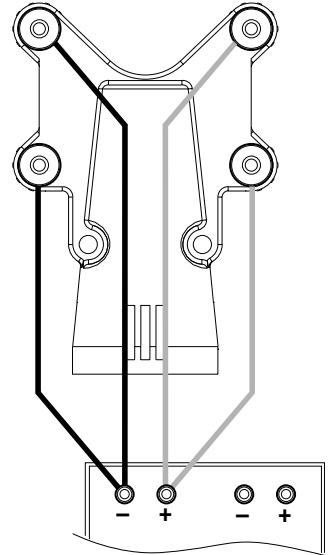

FIGURE 4
- 2) Next, connect the second cable, from the amplifier (same channel, secondary connectors) to the lower set of terminals on the Veritas™ speaker. **See Figure 4.**